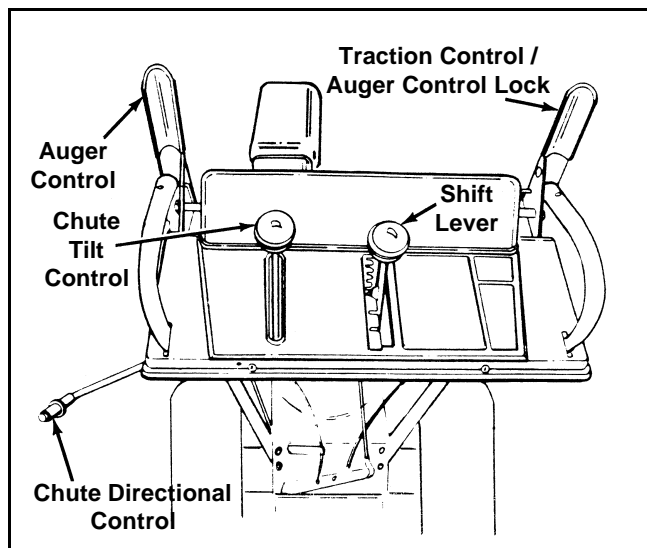

Figure 7
- Push forward on the auger control (Refer to Figure 7) until the small rubber bumper contacts the upper handle. There should be slack in the cable.
- Move the shift lever into sixth (6) position.
- a. With the traction control (refer to Figure 7 in Section 4 of this manual) released, gently push the snow thrower forward, then pull it back. Disregarding the overall weight of the snow thrower, the machine should otherwise move freely.